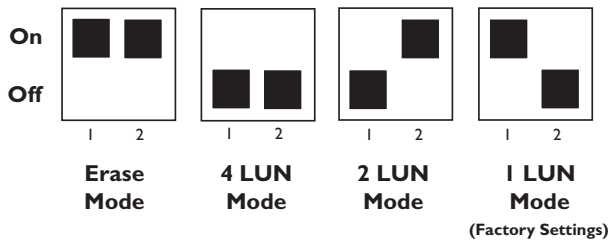

Figure 4-2 MODE DIP Switch settings diagram
2. With the disk array powered **OFF**, change the MODE Switch to **Erase Mode**. (See **Figure 4-2**).
4. Power the disk array **OFF** again, and configure the DIP Switches for the new mode. (See **Figure 4-2**).